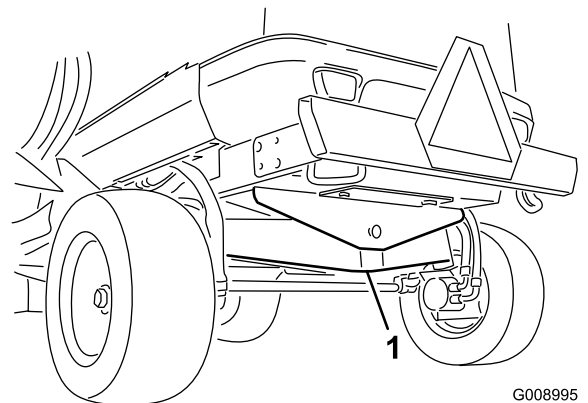

Figure 38
1. Front jacking point (2)
- On the rear of the machine at the center of the axle (Figure 38).